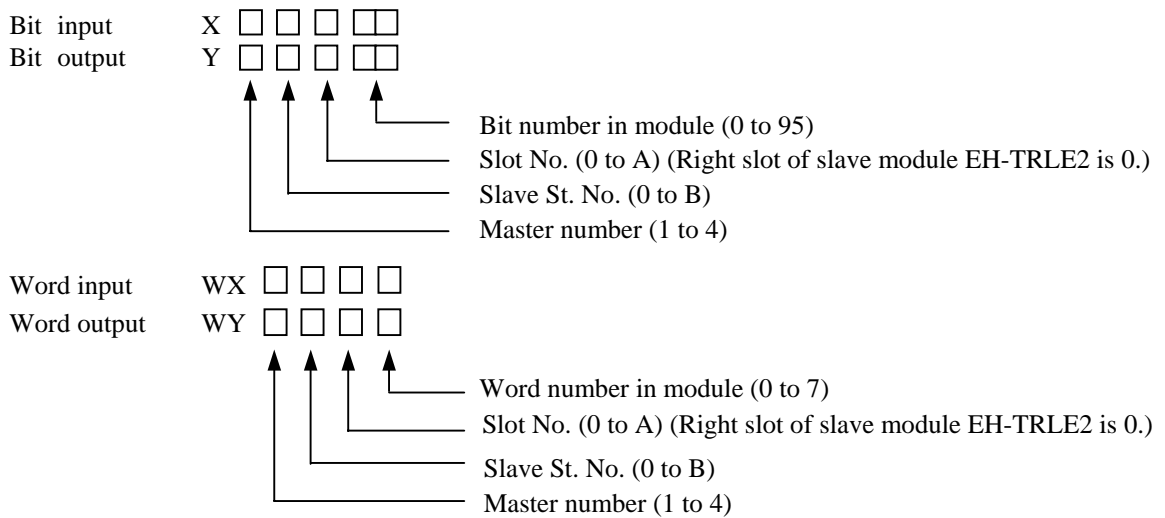

Figure 4.3.2 I/O number of I/O module on remote slave base
- 9) Refer to Figure 4.3.2 about I/O number of modules on remote slave base.